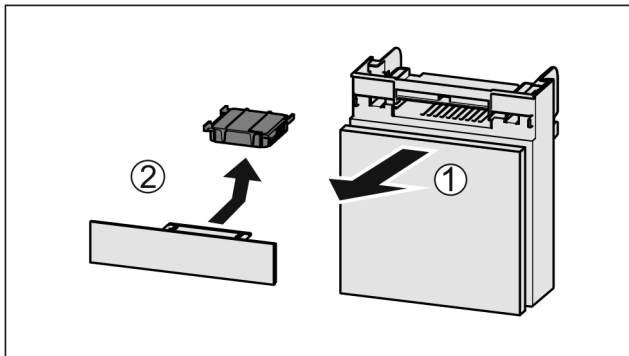

Fig. 199
- Pull out the compartment Fig. 199 (1).
- Remove the carbon filter Fig. 199 (2).